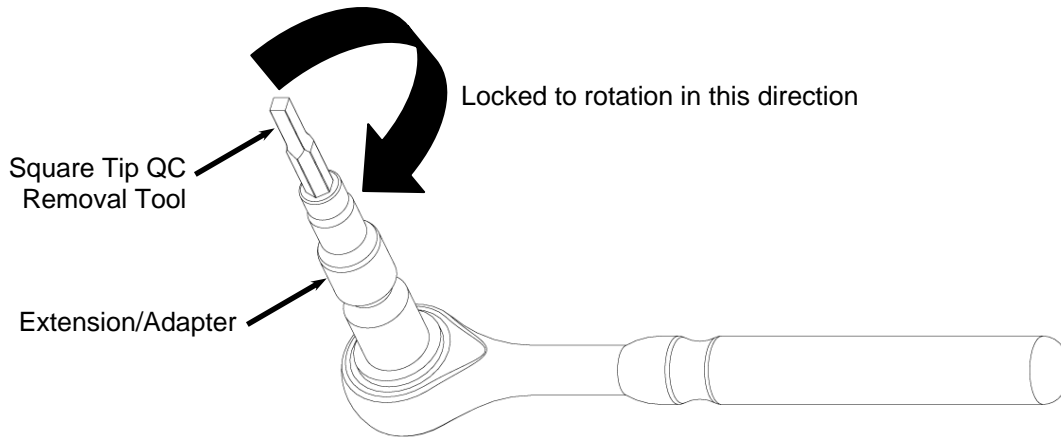

FIGURE 2: ASSEMBLED SOCKET WRENCH
- 3. Assemble the socket Wrench:** Assemble the square tip QC removal tool and the extension/adaptor to a standard socket wrench. Make sure that the wrench is set to lock in the standard tightening direction (clockwise as viewed from the back of the wrench, counter-clockwise as viewed in Figure 2)